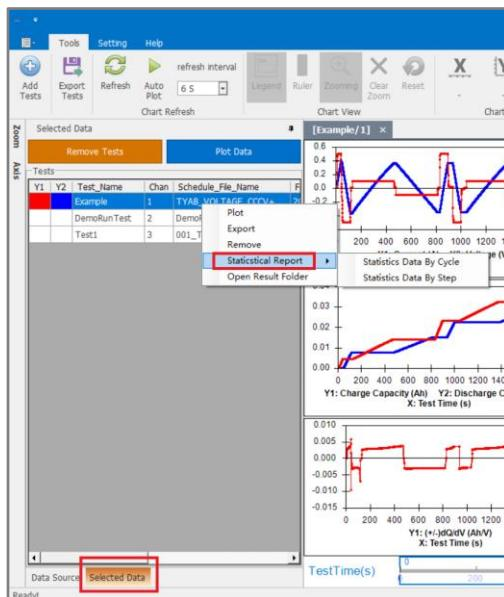

Figure 11-19 Open the Statistics Report Interface
- 3) In the menu that appears, select the “Statistical Report” option (Figure 11-19).